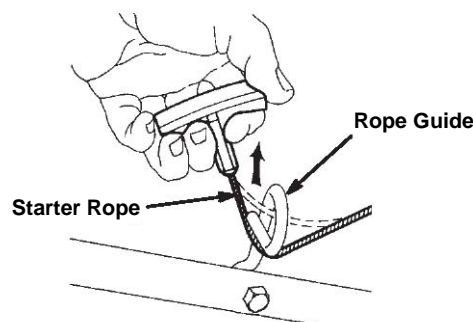

Figure 2
1. Pull the starter rope from the engine through the rope guide on the handle (Fig 2.).